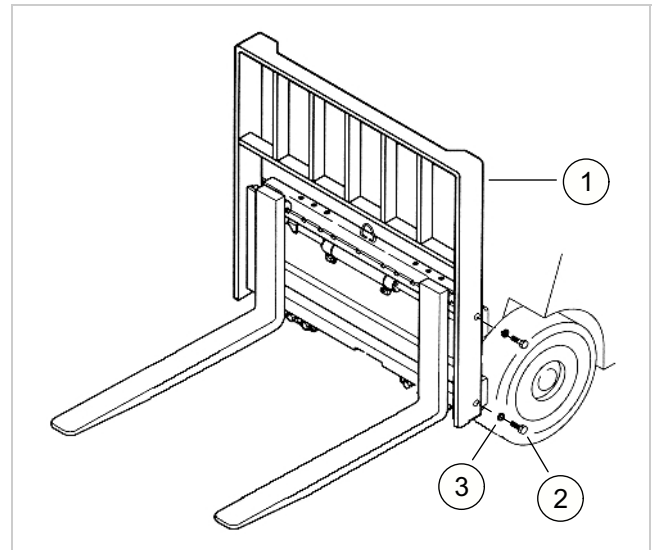

Fig. 9 (16214-01)
7. See Figure 9. Put the load backrest (1) on the fork carriage and secure with the screws (2). Torque the screws (2) to 196 N m (145 ft lb).